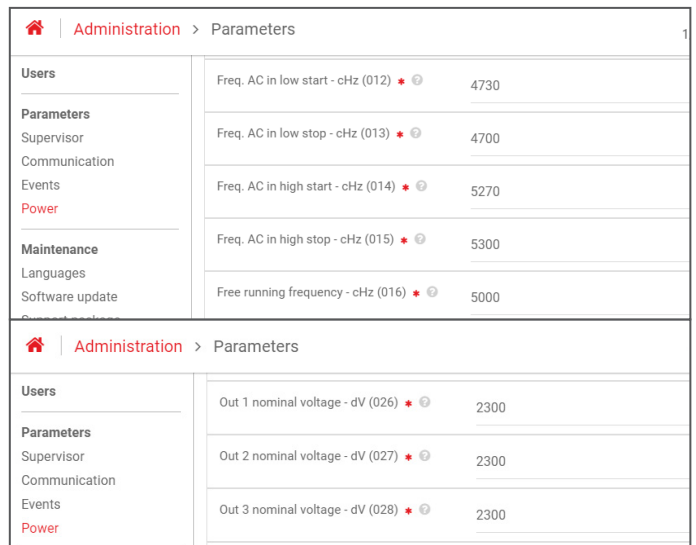

Figure 7: Module Parameters - Frequency and Output voltage
- Go to the Converters page (Administration (⚙️) > Parameters > Power > Converters) and configure the module parameters. (Figure 7)
- Output Frequency:** Set the “Free running frequency (016)” to match with the nominal frequency of the AC mains (Grid).
- For single-phase: set the parameter (026), dual-phase: set (026) and (027), and three-phase: set (026) to (028).